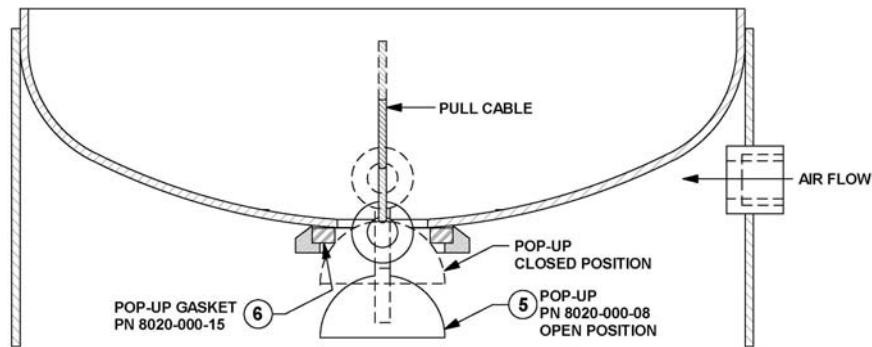

Figure 8.1 – Standard Pop-up Assembly and Internal Piping
Check the pressure vessel internal piping for corrosion, cracks, and holes. See Figure 8.1.
- e) Pull the popup against the gasket and check for proper seating as shown in Figure 8.1.